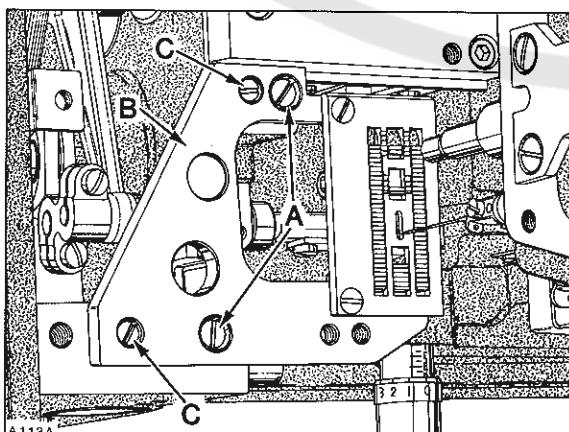

Fig. 12
Feed dog should be centered in throat plate with equal clearance on both sides and ends. At highest point of travel, feed dog teeth should extend the depth of a full tooth, or approximately  $3/64$  inch (1.2mm) above throat plate. MINOR (right to left) adjustments can be made by loosening two screws (A, Fig. 12) in throat plate support (B). Loosen two screws (C) securing two locating ferrules which allow movement to align throat plate support. Reposition slightly as required, considering both needle hole slot and feed dog slots. Tighten screws (C) first, then screws (A).